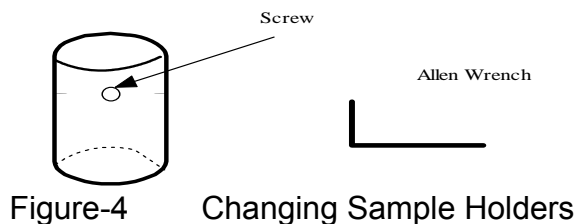

Figure-4 Changing Sample Holders
- Open the lid of the **Sample Holder**, and locate the **Sample Holder Locking Screw** as Figure-4 shown